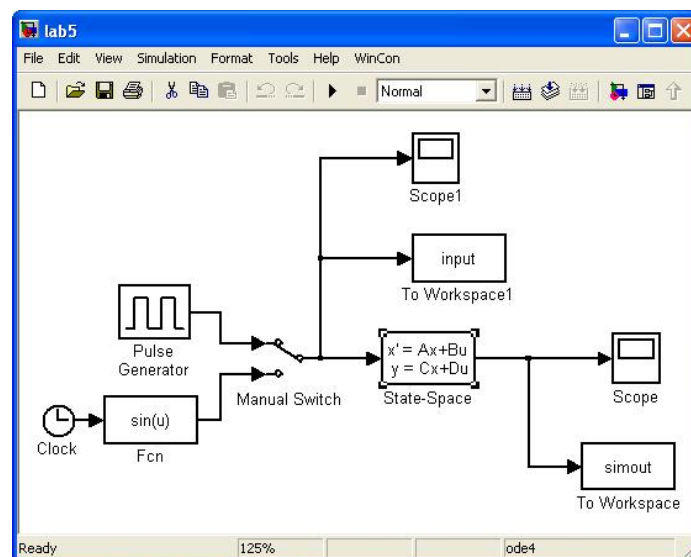

Figure 4.1: Simulink model for Lab 4
4. Prepare the **Simulink** model shown in Figure 4.1. You could use the model in Lab 3 if you saved it. They are the same.